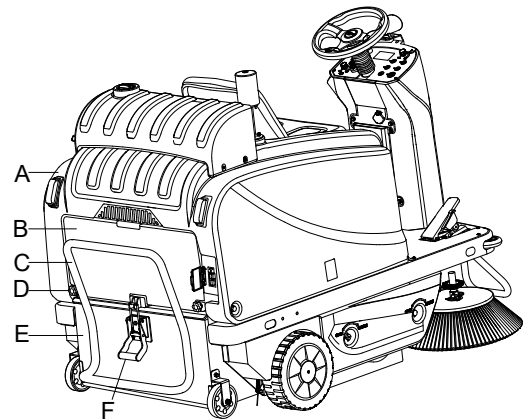

Figure 30
3. Remove the cover (A, Figure 30)
4. Disengage the latch (F, Figure 30) by pulling its lower end.
5. Remove the hopper (E, Figure 30) by disengaging it from the inner guides with the handle (C, Figure 30).
6. Unscrew the knobs (D, Figure 30) and remove the filter compartment cover (B, Figure 30).
7. Unscrew the knobs (A, Figure 30).